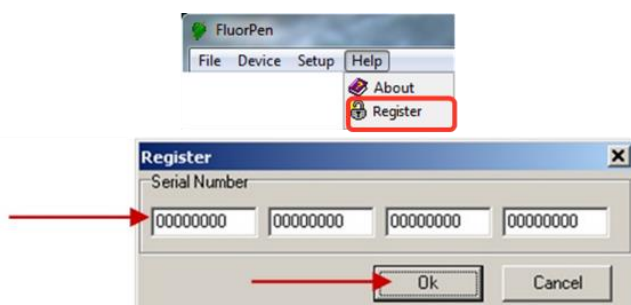

Fig. 18 Software registration
- When connecting the LaiPen device to the FluorPen software for the first time, proceed with registration of the FluorPen software (Fig. 18). Select: Help > Register and enter your serial registration number. The number is found in the text file on the USB flash disk drive shipped with the device. Confirm with the OK button.